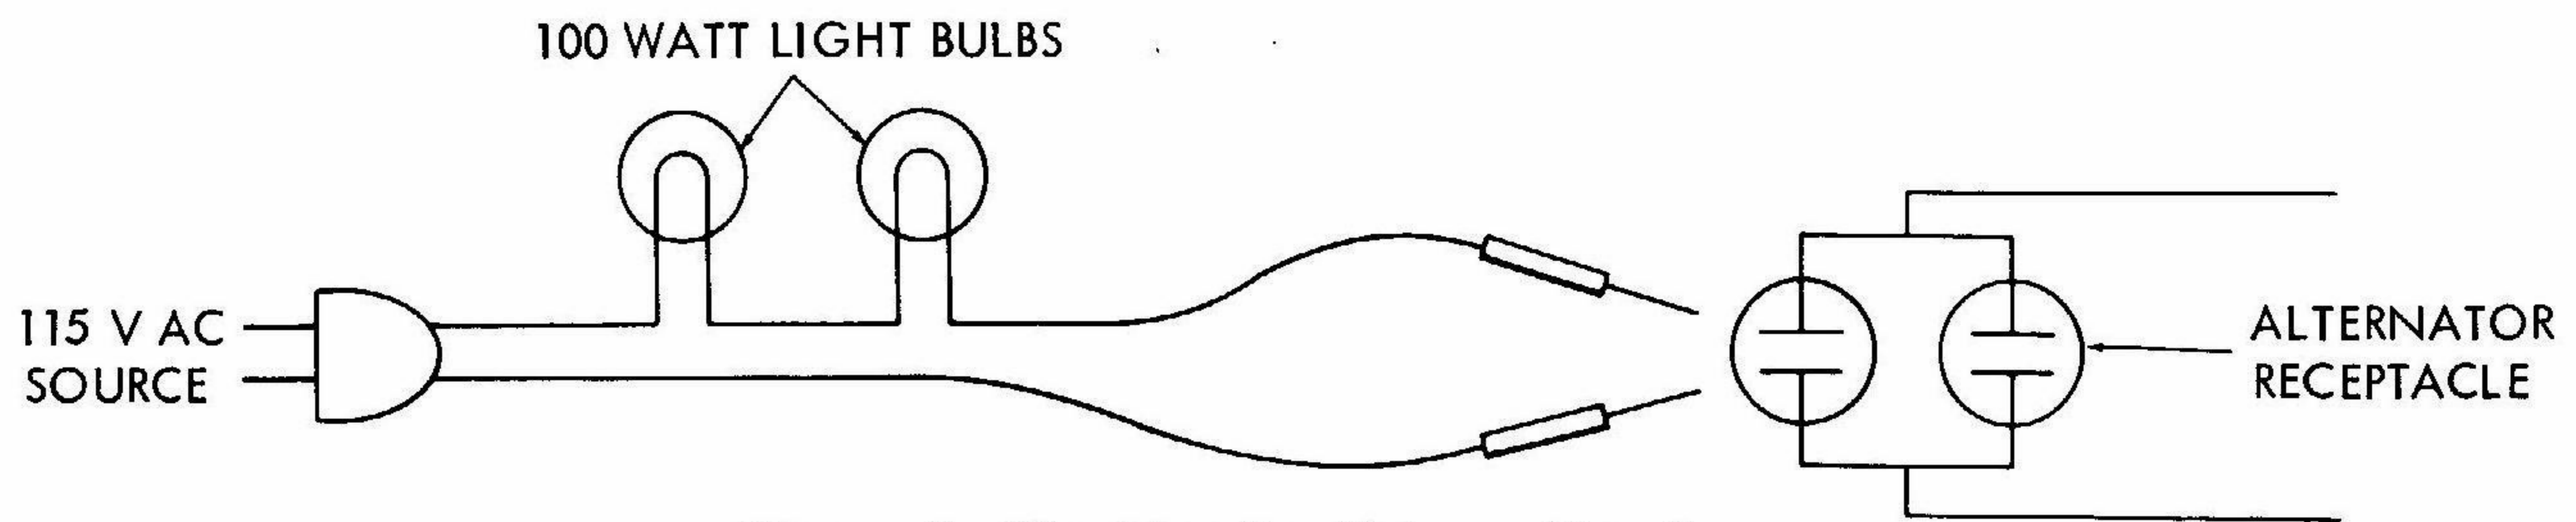

Figure 3. Flashing the Rotor - Step 2
2. Connect two 100-watt bulbs in series (see Figure 3) to a 115 volt source. Touch test probes to both sides of alternator 115 volt receptacle for approximately 1 second - or: